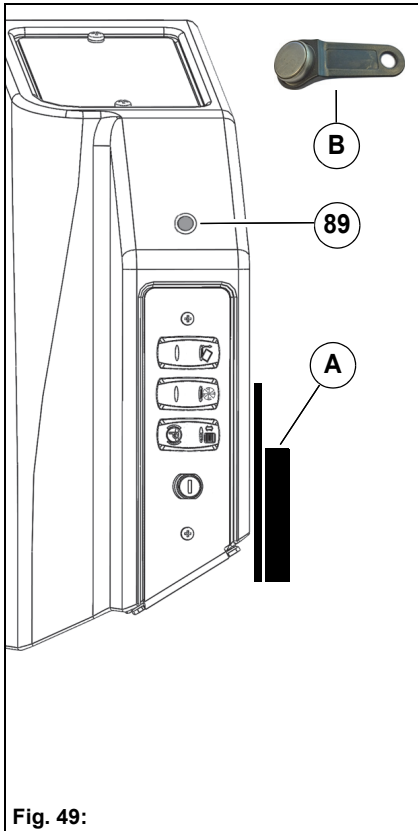

Fig. 49:
The Fleet entry.X **Fig. 49-A** records operating times and further operating conditions of the machine.
- Press the I-Button key **Fig. 49-B** against the I-Button Reader **Fig. 49-89** for one to two seconds.